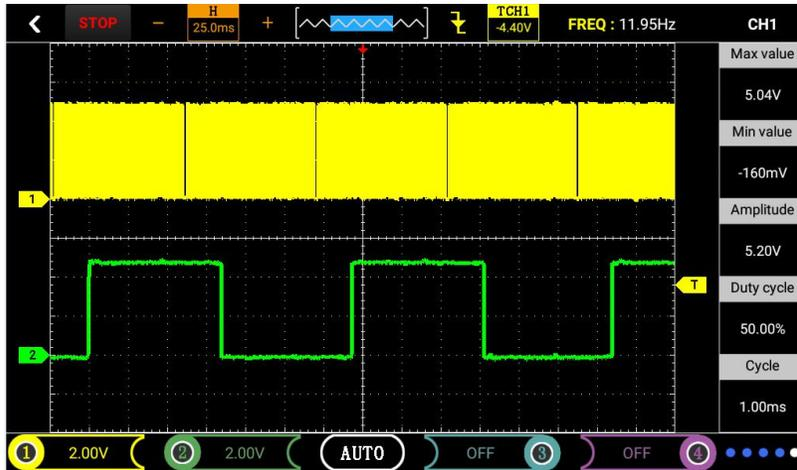

Figure 3-12.
1) Pull down the pull-down menu from the top of the screen and tap the waveform recording icon to record video. As shown in Figure 3-12.